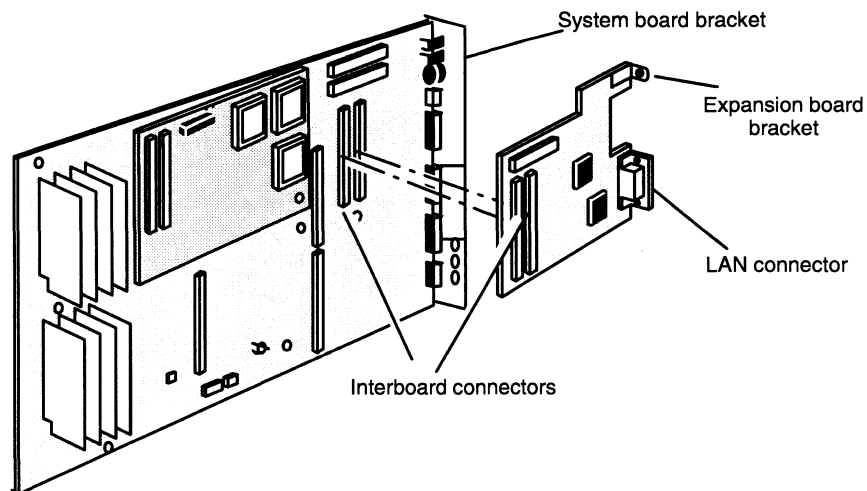

Figure 9-15 Joining the Interboard Connectors
3. Position the Ethernet LAN connector in the openings provided by the system board bracket and the computer unit bulkhead, then align the interboard connectors and press them together as shown in Figure 9-15. If you cannot press the connectors together, make sure that the connectors are aligned correctly, and then try pressing them together again.